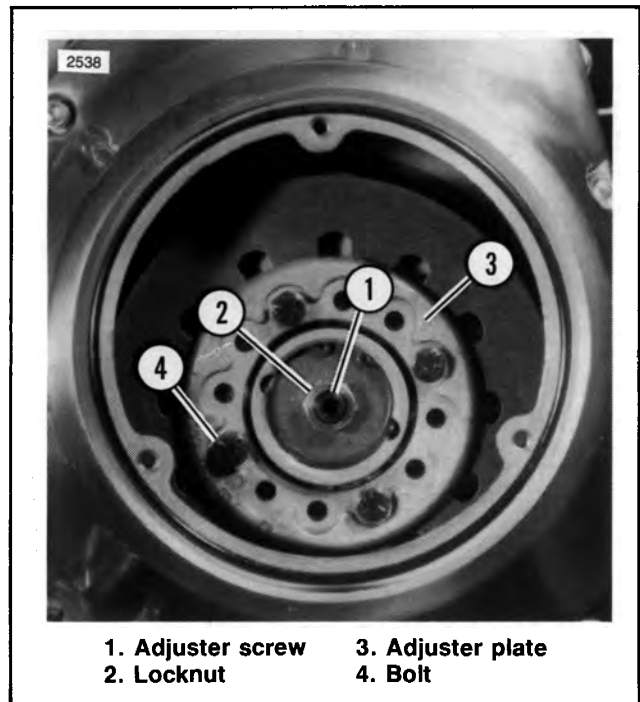

Figure 6-19. Push Rod Adjustment
4. See Figure 6-19. Loosen clutch adjuster-screw locknut (2) and turn adjuster screw (1) counter-clockwise to provide clutch push rod free play.